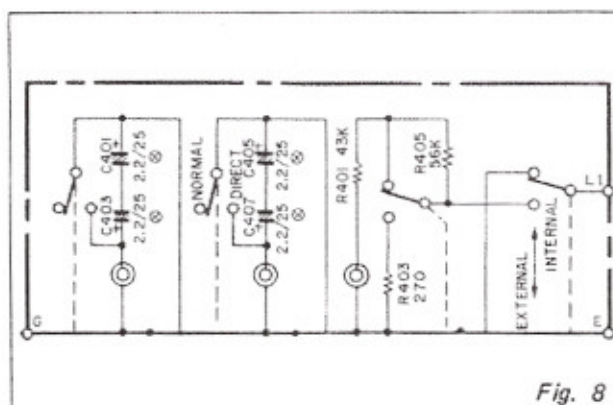

Fig. 8
- Input connections are possible through 2 paths and it is also possible to change over from NORMAL to DIRECT by means of a changeover switch. (Figure 8)